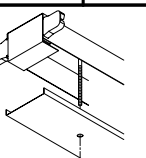

Fig. 11
8. **Attach the wireway cover,** by grasping cover with flanges facing upward. Align the holes with the Carriage Bolts hanging from the base. Slide the cover upward and secure the cover in place with two **Hexnuts (9)**. **See Fig. 11.**